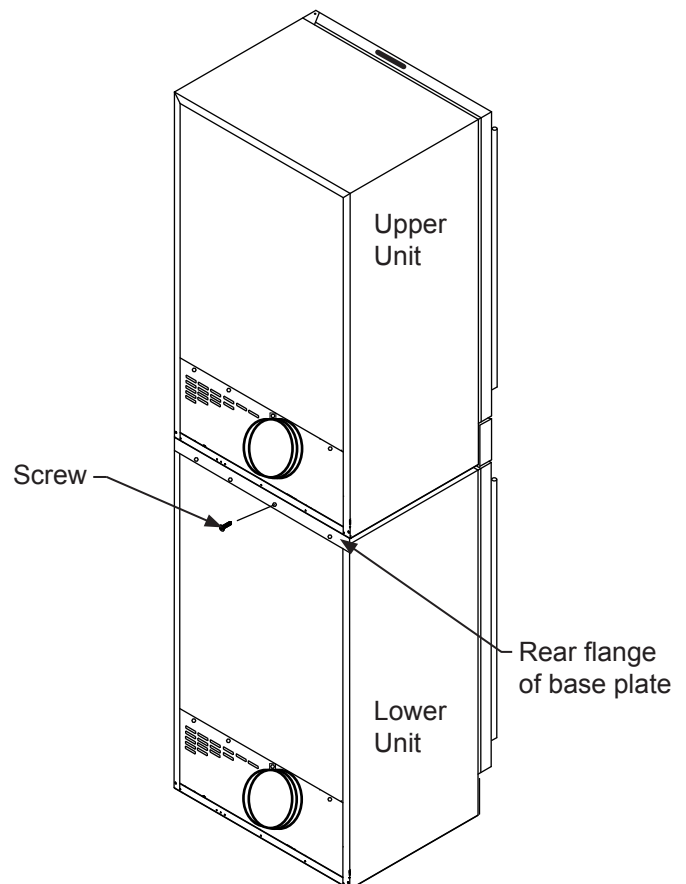

Figure 10
4. **With a helper(s)** lift the upper unit and place on top of the bottom unit, align the cabinet edges of the upper and lower units, and secure with the four (4) self drilling screws that are provided with the  $\frac{5}{16}$ " socket and drill motor. The screws are self drilling, use the 4 slots in the flange of the baseplate as pilots for the screws. Use care when tightening the screws so you do not over torque them and strip out the screw holes. (See Figure 10).